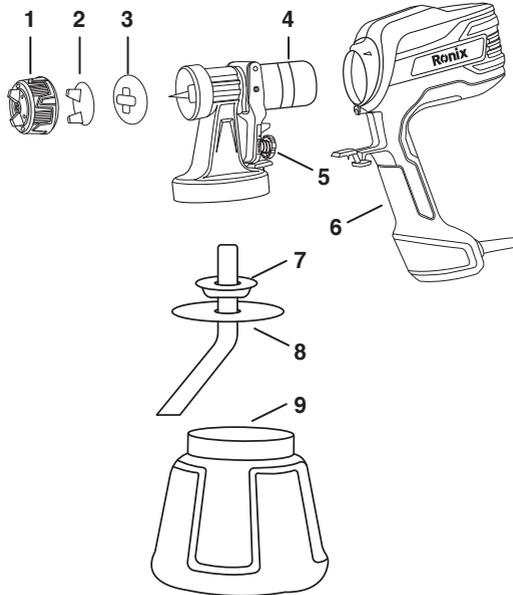

Fig.10
11- Unscrew the union nut (Fig. 10, 1) and remove the air cap (2) and nozzle (3). Clean the air cap, nozzle with a brush and solvent or water.
- In order to mount the gun more easily apply lubricating grease (enclosed) liberally to the O-ring at the gun front part. (Fig. 10, Item 4)